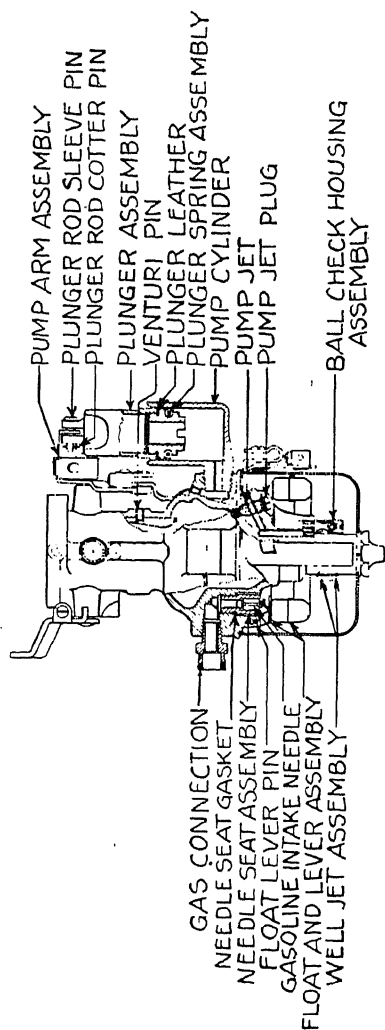

Fig. 138. Section through Float Chamber of the Chevrolet "Six" Carter
**Accelerating Pump.** A specially designed accelerating pump, Fig. 138, providing long delayed action has been incorporated to aid in securing maximum acceleration and car performance. This pump is equipped with a ball-check inlet valve in the float chamber and a No. 75 jet, which discharges through the air chamber into the ven-
Flooding may also result from the float touching the bowl. This is caused either by the bowl being improperly seated at the top or by the float lever, Fig. 138, having been bent. If the float is rubbing, a bright spot will be found at the point of contact. This may be corrected by setting the float at its proper level or seating the bowl on the gasket in the carburetor body. If the float lever has been badly bent, a new float is the quickest and best remedy.